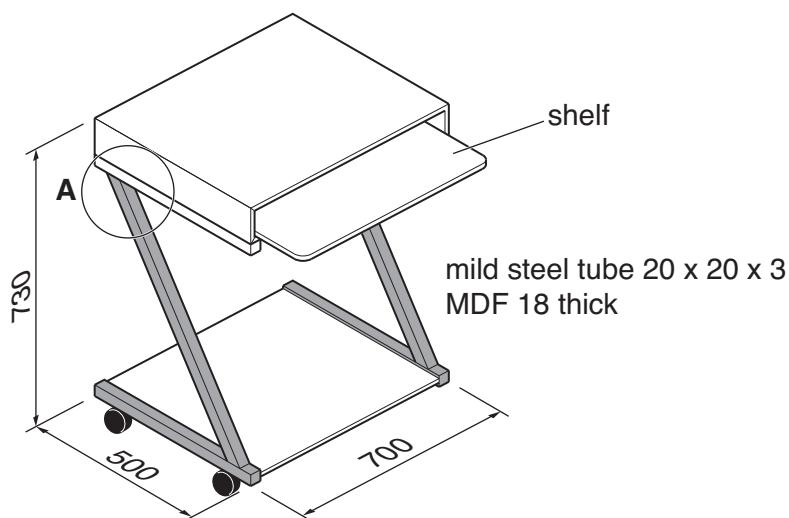

Fig. 6
- 5 Fig. 6 shows a computer desk made from MDF and mild steel tube.